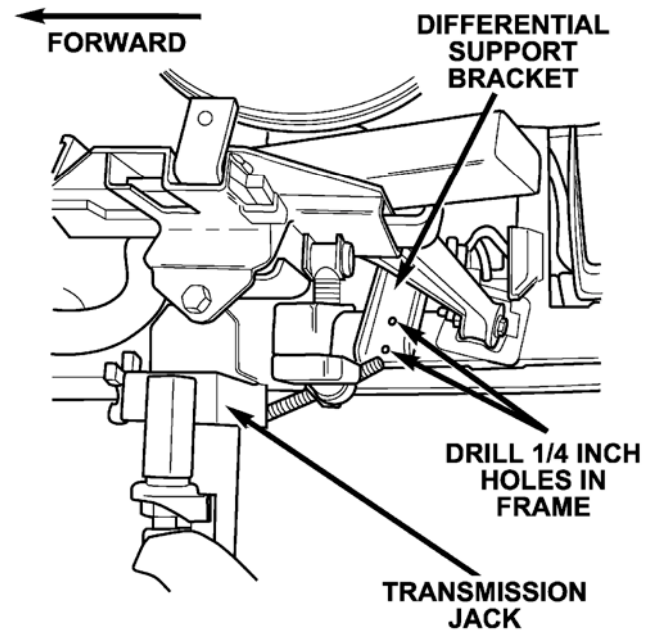

Figure 44
23. Place a jack stand under the left rear lower control arm and raise the suspension to allow access to drill the two holes in the frame (Figure 44).
24. Using the differential support bracket as a template, drill two ¼ inch holes in the frame as shown in Figure 44.